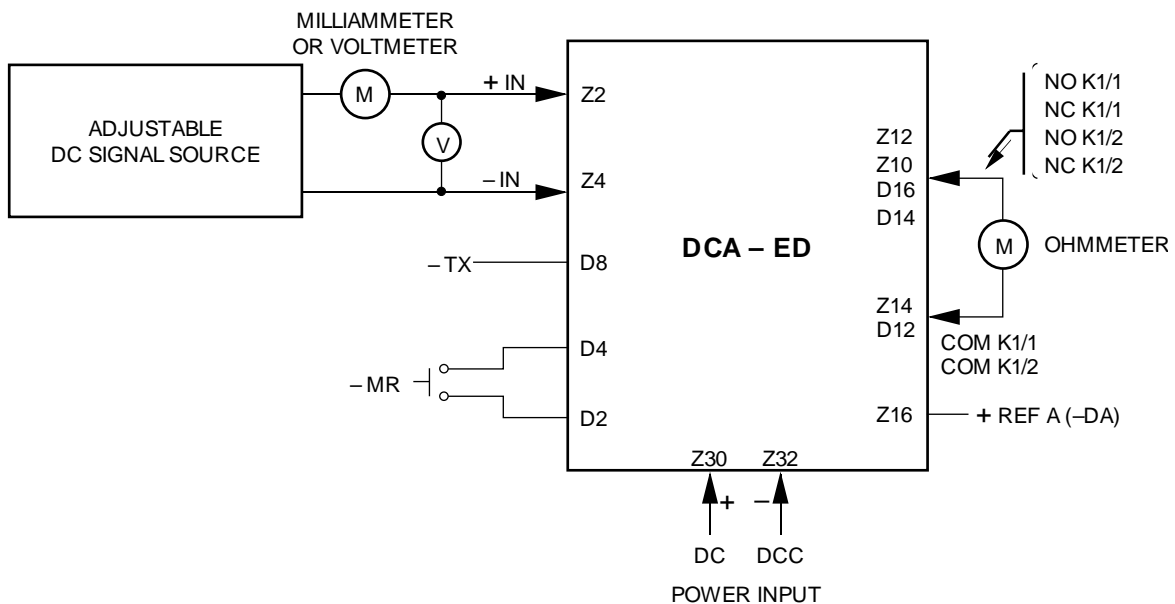

Figure 3. Calibration Setup for Single Input/Single Alarm Units
calibration setup for single input/single alarm units is shown in figure 3. The calibration setup for single input/dual alarm units is shown in figure 4. The calibration setup for dual input dual alarms (DI option) units is shown in figure 5.
6. Connect a precision signal source to the input of the DCA-ED. Connect a 24 Vdc power source. Refer to figures 3, 4 and 5.